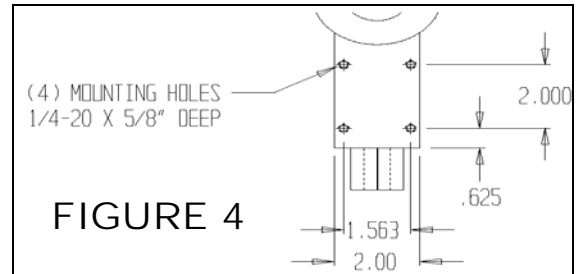

FIGURE 4
The locations of the (4) 1/4”-20 Air Prime mounting holes are shown in figure 4 below. These mounting holes are available for use on all of the Air Prime designs. When fabricating a bracket to attach the primer to a structural member on the vehicle, always use all (4) of the Air Prime mounting holes.